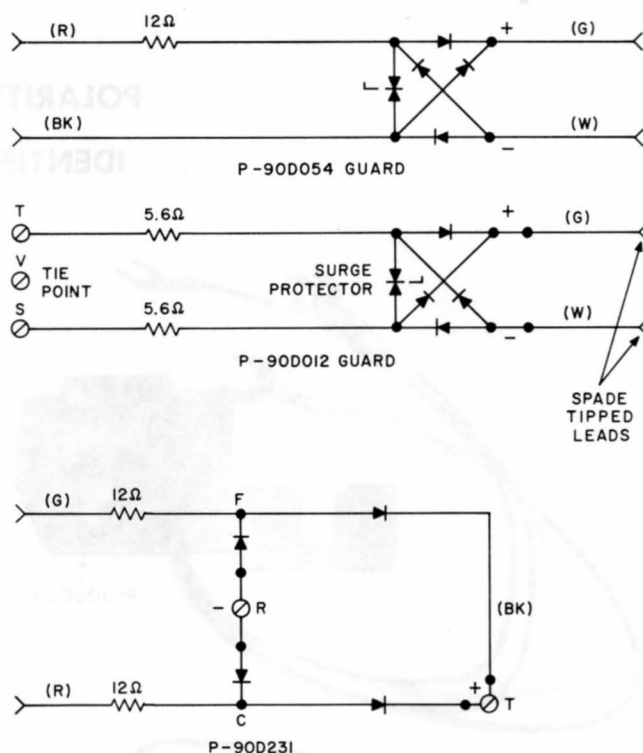

Fig. 2—Polarity Guards For TOUCH-TONE Dials
- (d) Fig. 2 provides circuit diagrams for polarity guards.